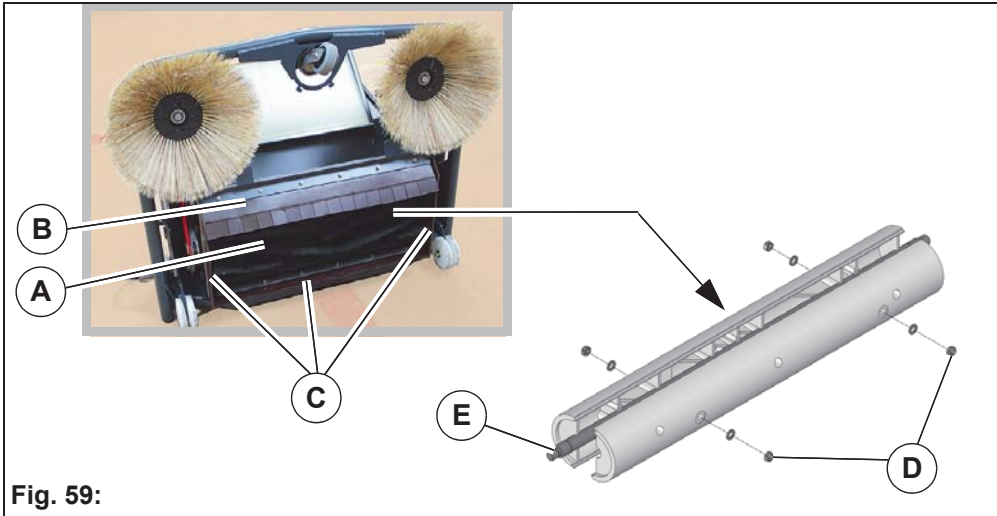

Fig. 59:
Inspect the cylindrical brush **Fig. 59-A** and the cylindrical brush compartment for soiling daily and clean if necessary.
5. Inspect the front apron **Fig. 59-B** and the sealing strips **Fig. 59-C** for soiling daily and clean if necessary.
4. Loosen the nuts and washers **Fig. 59-D** and remove the first half shell.
In the event of bristle wear and after replacing the cylindrical brush, the sweeping level **Fig. 59-A** must be readjusted.